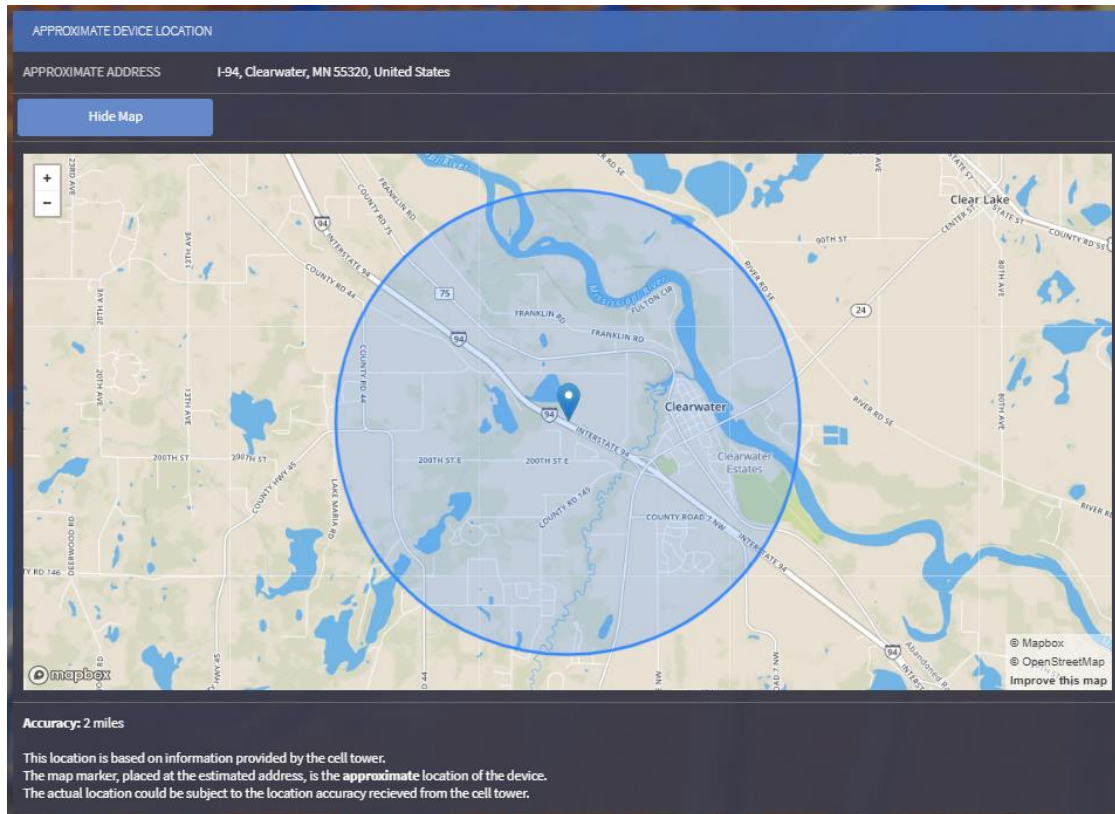

Figure 26
2. The "APPROXIMATE DEVICE LOCATION" section can be used to view ema's location. Reference *Figure 26*.